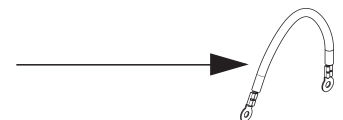

Figure 11
Where local codes DO NOT permit connecting the appliance-grounding conductor to the neutral (white) wire, or if connecting to 4-wire electrical system (see Figure 11):
3. In the circuit breaker, fuse box or junction box (Fig. 11):